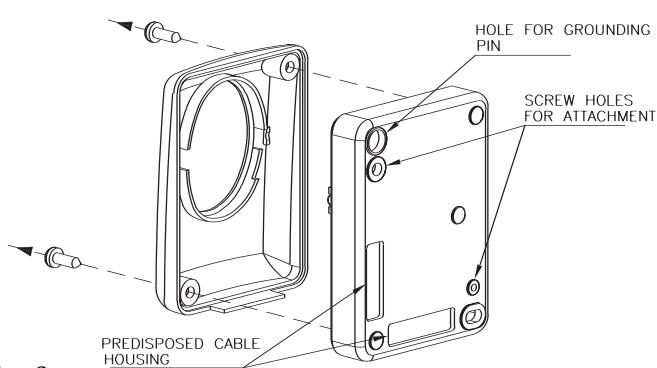

fig. 2
- remove the cover on the control button by unscrewing the two attachment screws and open the predisposed conduits to pass the cables (fig.2)